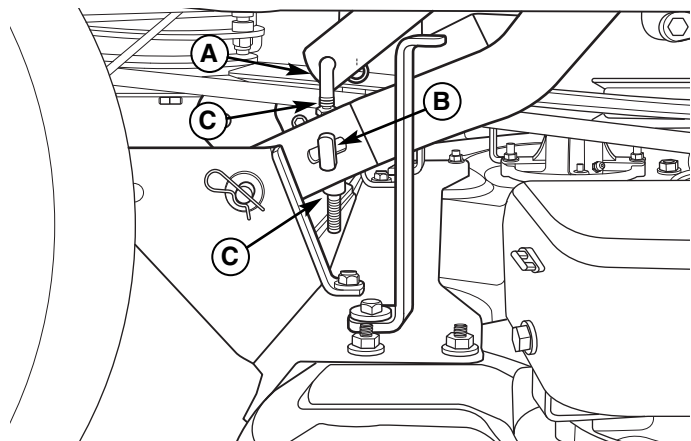

Figure 52. Side-to-Side Adjustment (52" deck shown; 42" deck similar)
6. See Figure 52. Side-to-side leveling is accomplished using the threaded rods (A) and trunnion (B) on the right and left rear sides of the mower deck. Loosen the jam nuts (C) and adjust the nuts up or down to adjust the mower level. When complete, tighten the jam nuts against the trunnion to lock the adjustment in place.